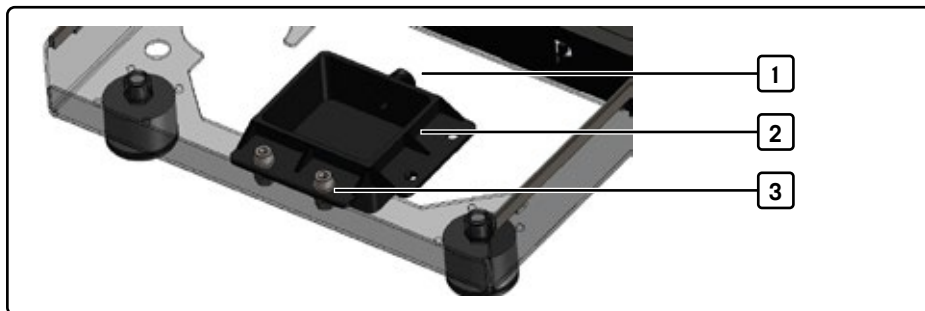

Fig. 5 Drain pan, installed
1. Fasten the drain pan (2, Fig. 5) to the drip tray holder.
2. Connect the wastewater hose to the connection (1, Fig. 5) and secure with the hose clamp.